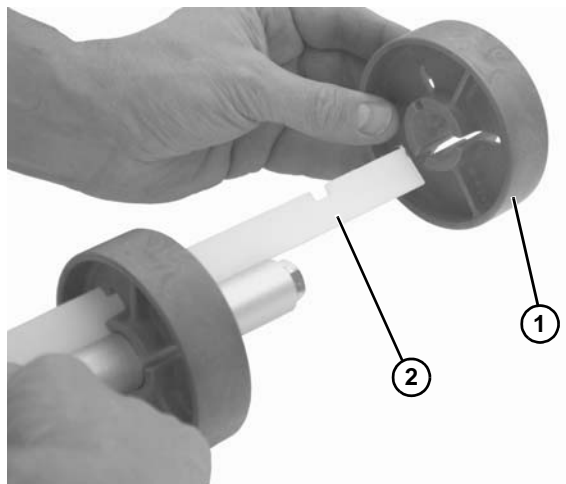

Figure 93
8. Remove rollers (**Figure 93, item 1**) and alignment bar from shaft (**Figure 93, item 2**).